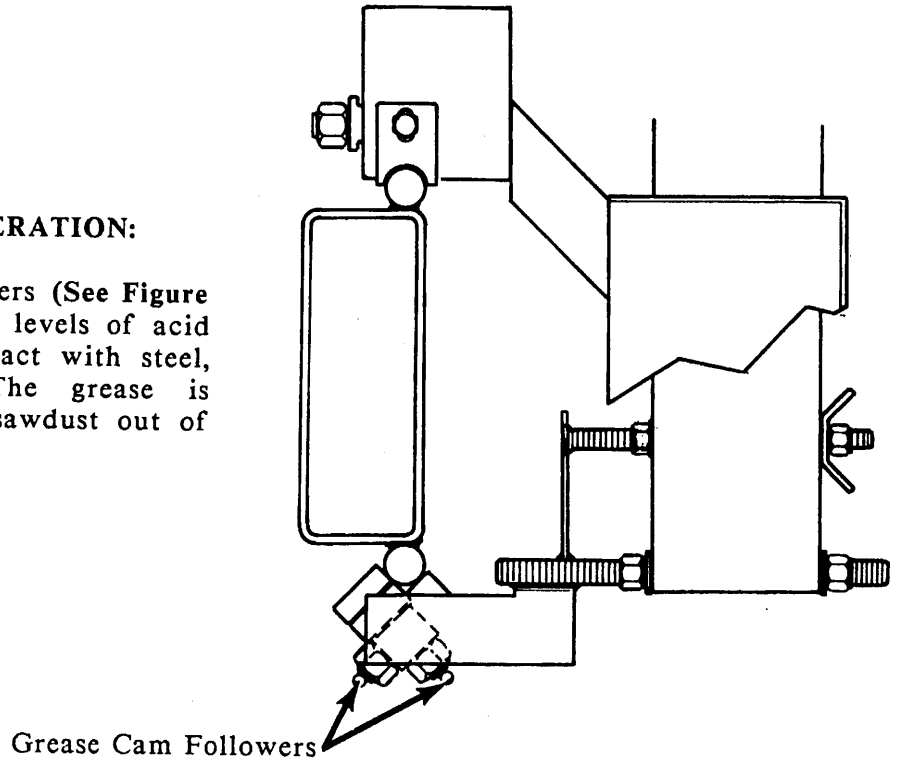

FIGURE 2
1. Grease (2) track cam followers (See Figure 2). Certain woods have high levels of acid in the sawdust that will react with steel, causing excessive wear. The grease is primarily for purging any sawdust out of the critical areas.